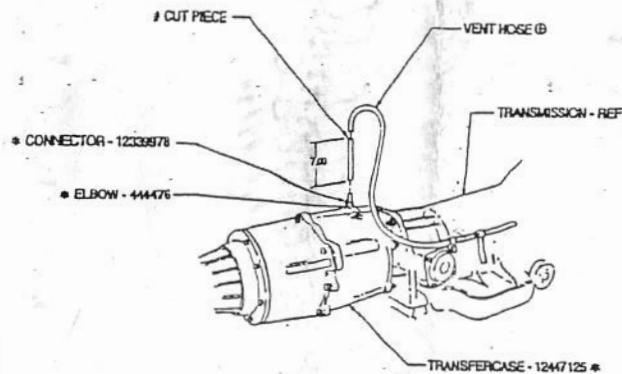

FIGURE 2
- A. INSTALL SPEEDOMETER DRIVEN GEAR ON 12447125 TRANSFER CASE AS SHOWN IN FIGURE 2. (REFER TO TM 9-2320-280-20.)
- B. INSTALL 444476 ELBOW AND 12339978 CONNECTOR ON TRANSFER CASE AS SHOWN IN FIGURE 2. (REFER TO TM 9-2320-280-20.)
- E. CUT 7 INCHES FROM END OF VENT HOSE BEFORE INSTALLING VENT HOSE ON TRANSFER CASE CONNECTOR AS SHOWN IN FIGURE 2.